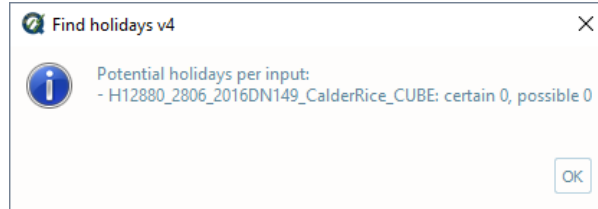

Fig. 2.15: The output message at the end of **Find holiday v4** execution.
- After computing, the output window opens automatically, and the results are shown (Fig. 2.15).